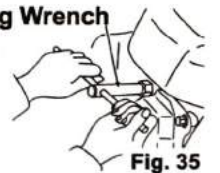
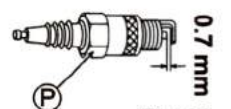

Fig. 35
Fig. 36
2. Remove Ignition plug (P) with the attached plug wrench. (See Fig. 35)
3. Exchange Ignition plug (P) if a great amount of carbon is adhered to it or its insulator is cracked or damaged.
4. Remove the carbon adhered to the electrode, and adjust the electrode clearance to 0.7 mm. (See Fig. 36)
5. Install Ignition plug (P) and Plug cap (Q).